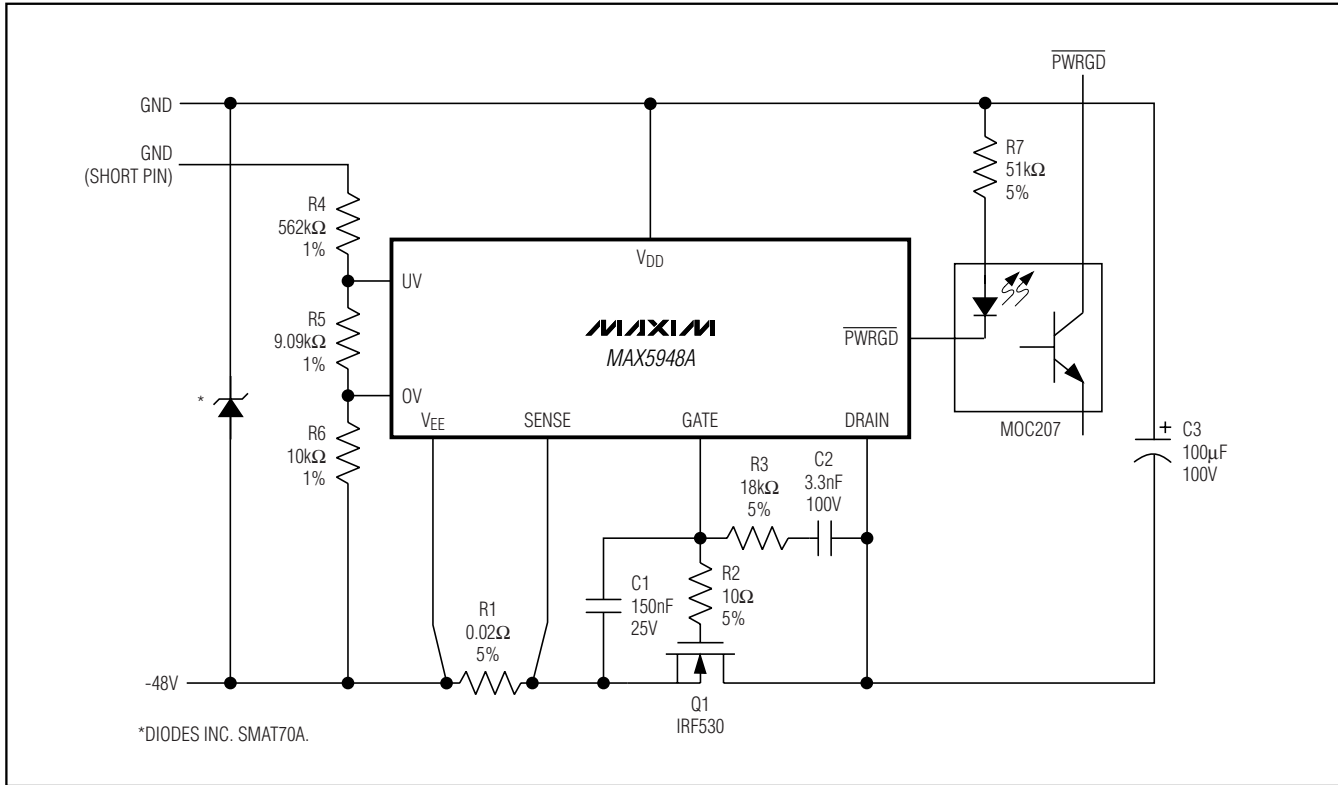

Figure 14. Using PWRGD to Drive an Optoisolator
- If an optocoupler is utilized as in Figure 14, determine the LED series resistor: